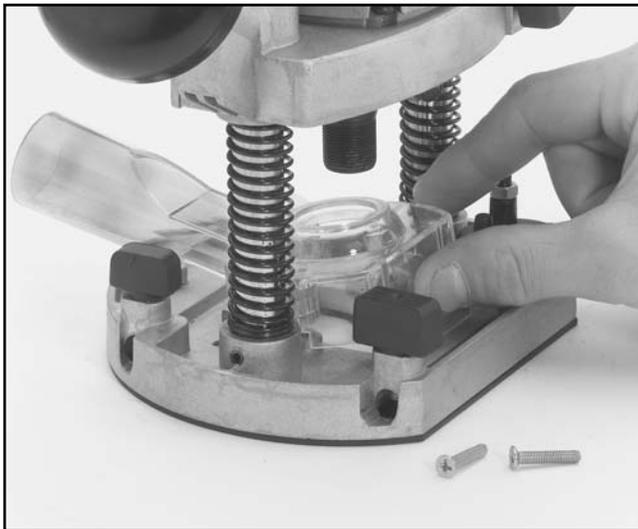

Figure 6. Installing dust port.
1. The dust collection attachment has a long lip on one side and two small lips on the other side. Line up the lips with the slots in the router base and snap into place as shown in **Figure 6**.